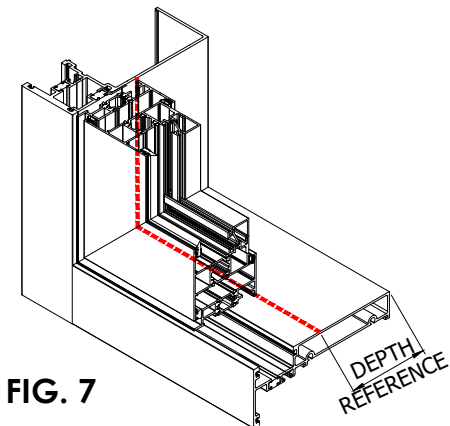

FIG. 7
- Position window frame in the opening, use **FIG. 7** as guide.